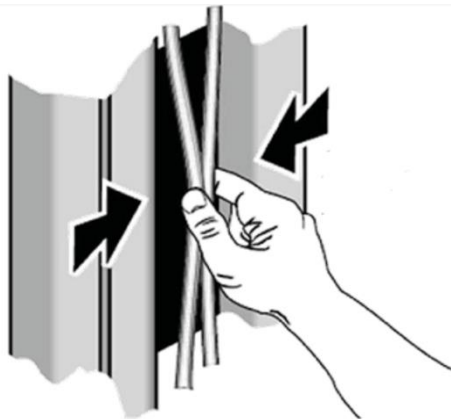

Fig. 31
- Raise the carriages to check the equalizer cable tension by grasping the adjacent cables between the thumb and the forefinger so that you can just pull the cables together (ref. fig. 31);